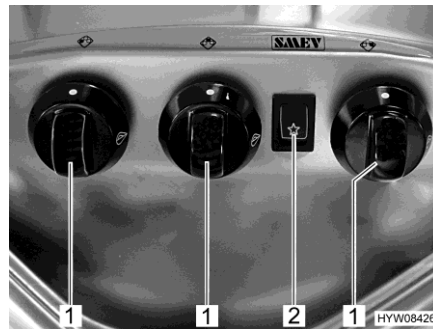

Fig. 197 Operating controls (gas cooker)
- Turn the control knob (Fig. 197,1) on the burner you wish to use to the ignition position (large flame).
- Press rocker switch (Fig. 197,2). Ignition sparks are generated at the burner.